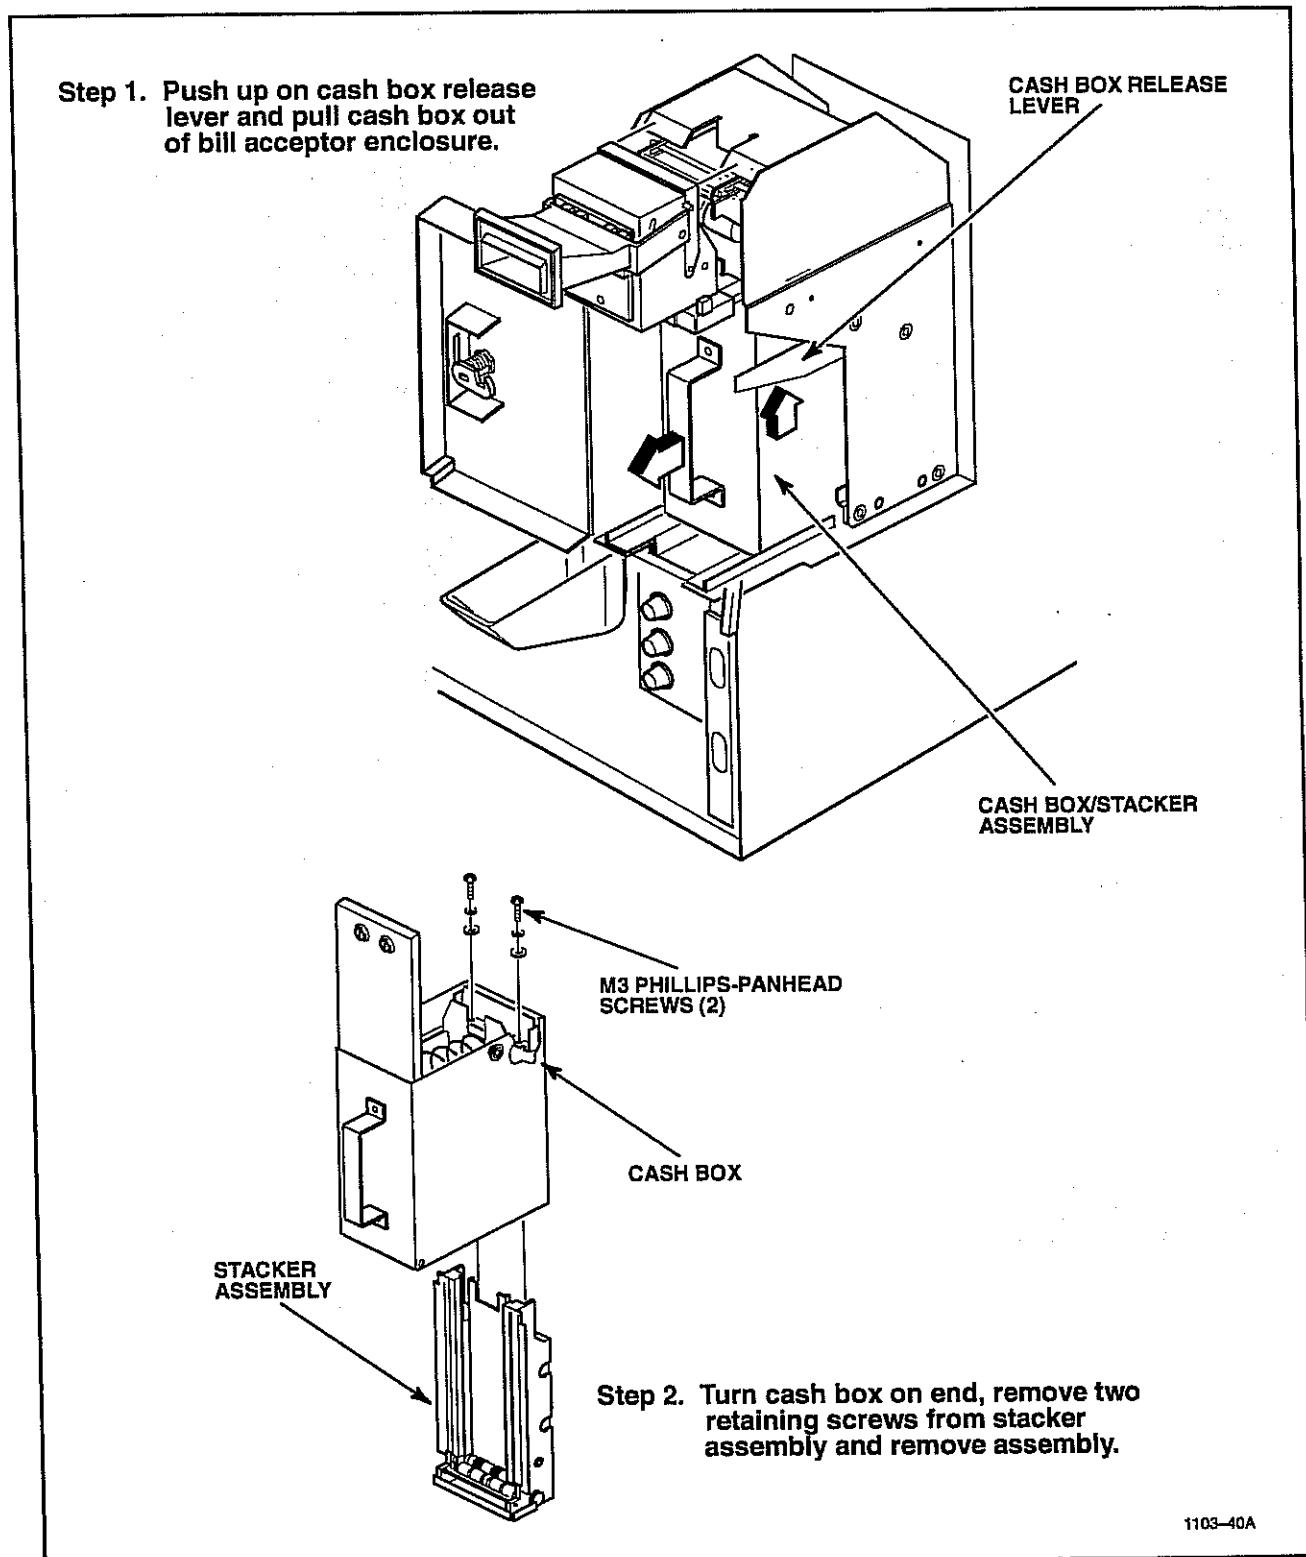

Figure 5-35. Cash Box/Stacker Assembly Removal/Replacement.
1. Orient the bill validator/transport assembly as shown in Figure 5-35. With extraction lever pushed down, slide the assembly into the enclosure as far back as possible, then lift the extraction lever.
2. Position the bill validator assembly so that the bill path and LED display faces front and rests on the front plate of the transport assembly (see Figure 5-35).
Refer to the following instructions and Figure 5-35 to remove/replace the stacker assembly.
1. Set the replacement stacker assembly on its end so its orientation matches that of the cash box (see Figure 5-35).